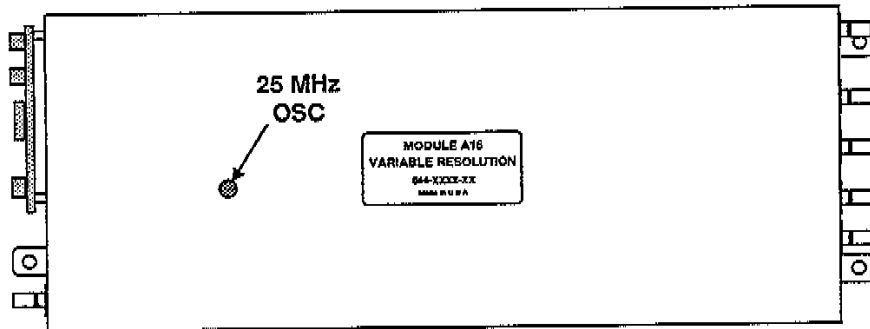

Figure 3-22. Location of 25 MHz Oscillator adjustment.
5. Adjust the 25 MHz Osc for an output (at J164) of 4 MHz \pm 20 Hz. Refer to Figure 3-22.